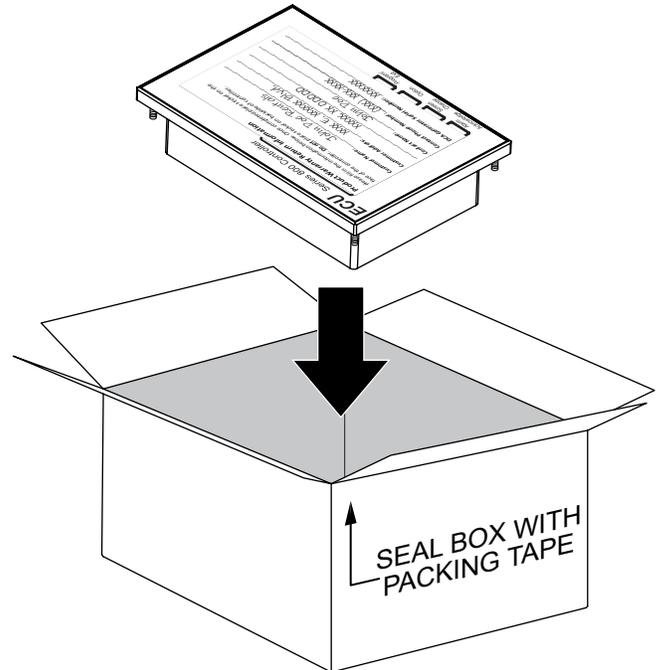

Figure 36. Shipping Box Preparation
3. Place the controller inside the shipping box (Figure 36) and seal the box with packing tape.